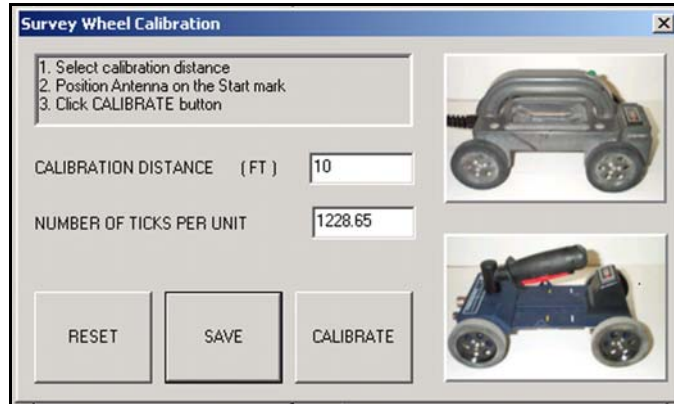

Figure 13: Survey Wheel Calibration dialog box.
- 5** You will see a window pop up with the heading Survey Wheel Calibration (Figure 13). This is where you enable the specific survey wheel device you are using with the SIR-20 and determine how many internal ‘ticks’ per selected unit of distance.